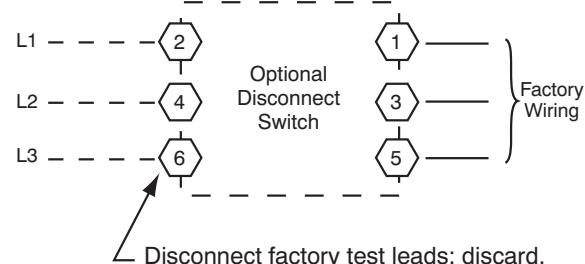
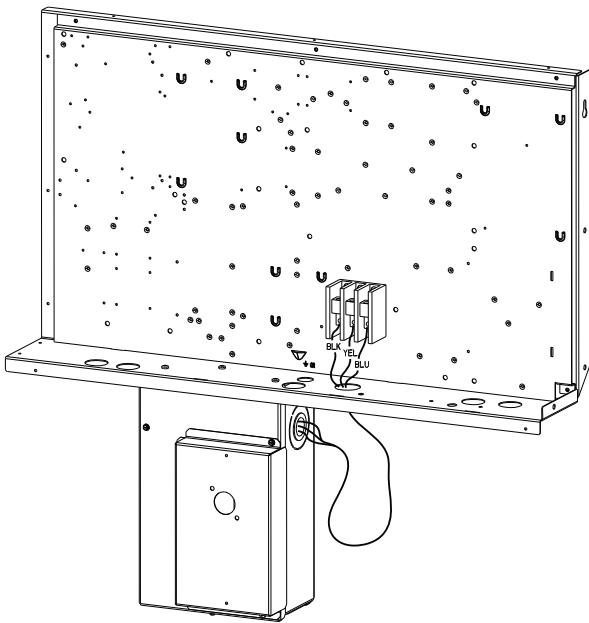

Fig. 63 — Power Wiring Connections (Size 16)
Fig. 65 — Location of Non-Fused Disconnect Enclosure (Size 16)
Field power wires are connected to the unit at line-side pressure lugs at the main terminal block (TB1) or at factory-installed option non-fused disconnect switch. Max wire size is #2 AWG (copper only). See Fig. 63.
Size wire based on MCA (Minimum Circuit Amps) on the unit informative plate. See Fig. 63 and the unit label diagram for power wiring connections to the unit power terminal blocks and equipment ground. Maximum wire size is 2/0 AWG per pole.
The factory-installed option disconnect switch is located in a weatherproof enclosure located under the main control box (see Fig. 65). The manual switch handle is accessible through an opening in the access panel. Discard the factory test leads (see Fig. 63 on page 43). The factory disconnect is an 80A disconnect.
1. Remove the Control Box access panel. The NFD enclosure is located below the Control Box (see Fig. 65).